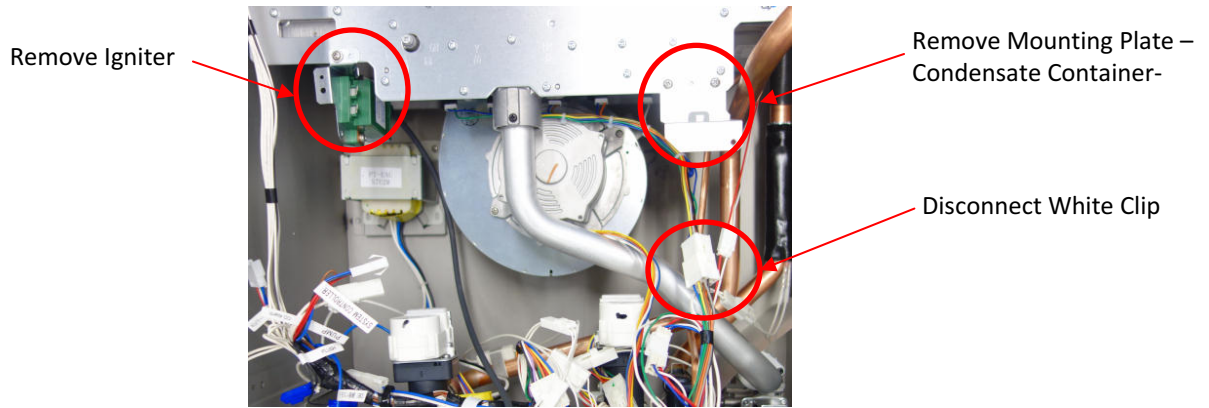
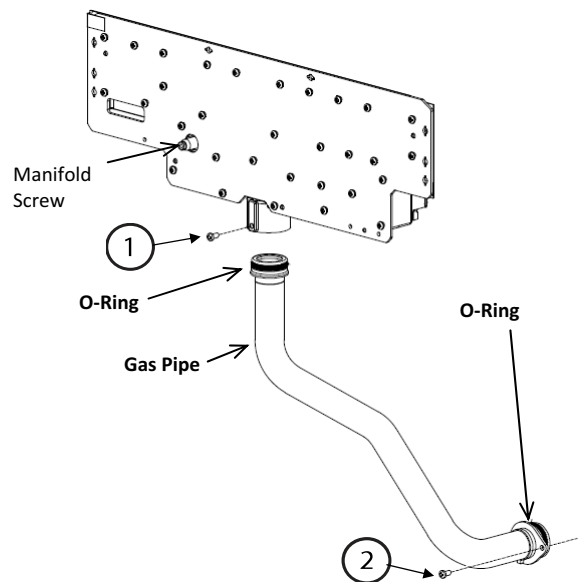

FIGURE 3
FIGURE 4-2
- 6) Locate the colored wire connectors from the electrical solenoids on the manifold from the locations indicated in FIGURE 4-1. Follow the wires to a white clip and disconnect it. Disconnect the gas pipe from the gas supply inlet by removing the 2 screws of the gas pipe (FIGURE 4-2). For easier access remove the Igniter and Mounting Plate – Condensate Container - on the Manifold Plate (FIGURE 3).
- 9) Locate the black O-rings on the gas pipe as indicated in FIGURE 4-2. If torn or damaged, remove and replace O-rings with the new O-ring supplied in the conversion kit. Discard the old O-rings.
- 15) Attach 2 screws to the gas pipe (FIGURE 4-2). **Failure to do so will cause gas leaks, possibly resulting in severe personal injury or death.**
- 16) Reconnect the white clip that contains the wires to the electrical solenoids on the manifold from the locations indicated in FIGURE 3 and FIGURE 4-1.